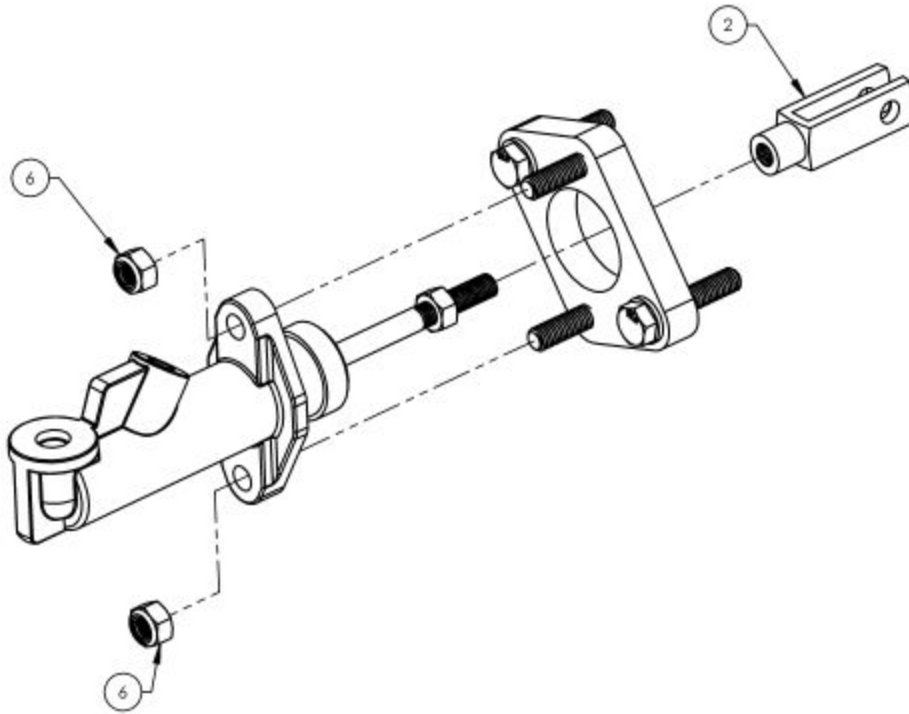
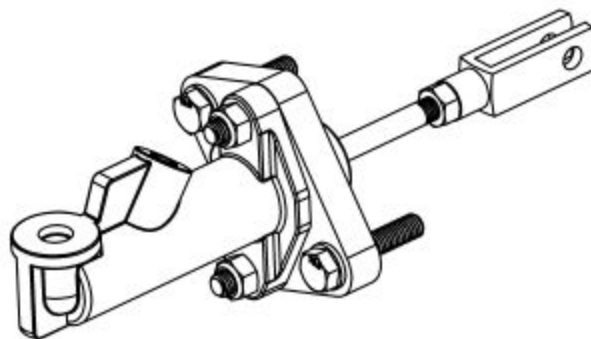

Figure 5
Figure 6: Complete Assembly
3. For most installations the master cylinder dust boot must be removed as it will not fit through the firewall hole. Install master cylinder on assembled bracket. Install the two nylock nuts per figure 5, torque 10 ft-lbs or hand tight. Install the fork on the master cylinder shaft, initially set to the same length from the base of plate as the OEM cylinder (should be adjusted after bleeding to get proper pedal engagement). Figure 6 shows the complete assembly.